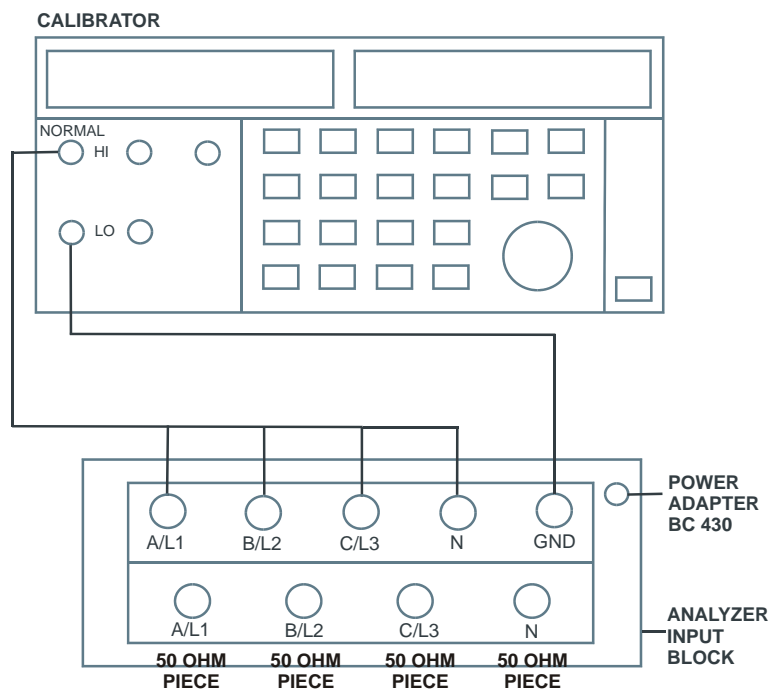

Figure 4-4. Checking the Channel isolation.
11. Connect the N input with the C/L3 input (See Figure 4-4). A/L1, B/L2, C/L3 now give zero reading.
10. Connect the N input with the C/L3 input (See Figure 4-4). A/L1, B/L2, C/L3 now give zero reading.